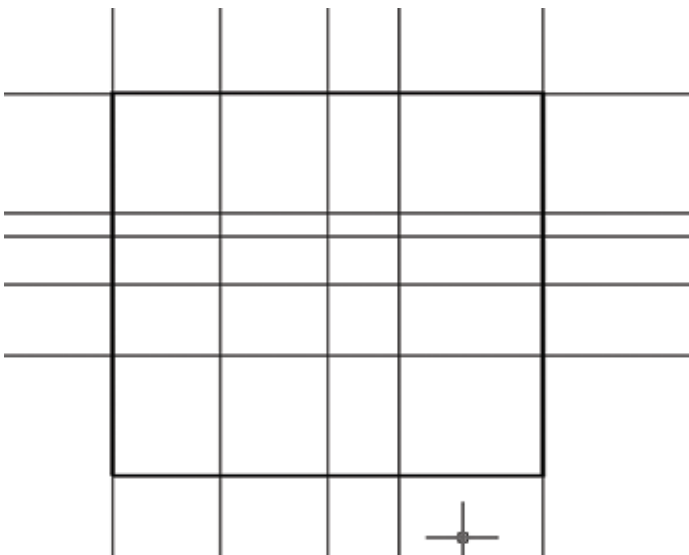

Figure 11.5
- You should now have a drawing like that shown in Figure 11.5.